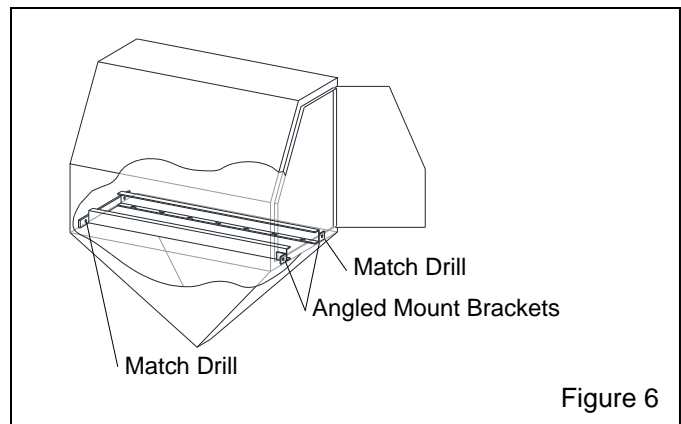

Figure 6
**3.3.3** Refer to Figure 6 and center the track and table assembly inside the cabinet on top of the grate. Make sure the two angled mounting brackets are facing toward the door from which the table will slide.